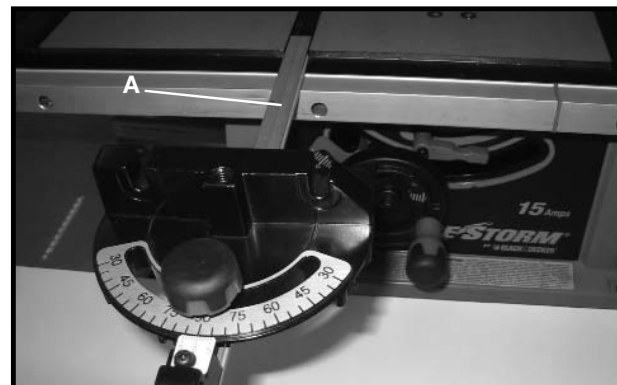

Fig. 28
The miter gage is shipped completely assembled and is supplied with a T-slot miter gage bar (A) Fig. 28, that is inserted into either one of the two T-slotted miter gage grooves located in the table top, as shown. The T-slot miter gage prevents the miter gage from falling when it is extended out beyond the front of the table when cross-cutting extra wide workpieces.